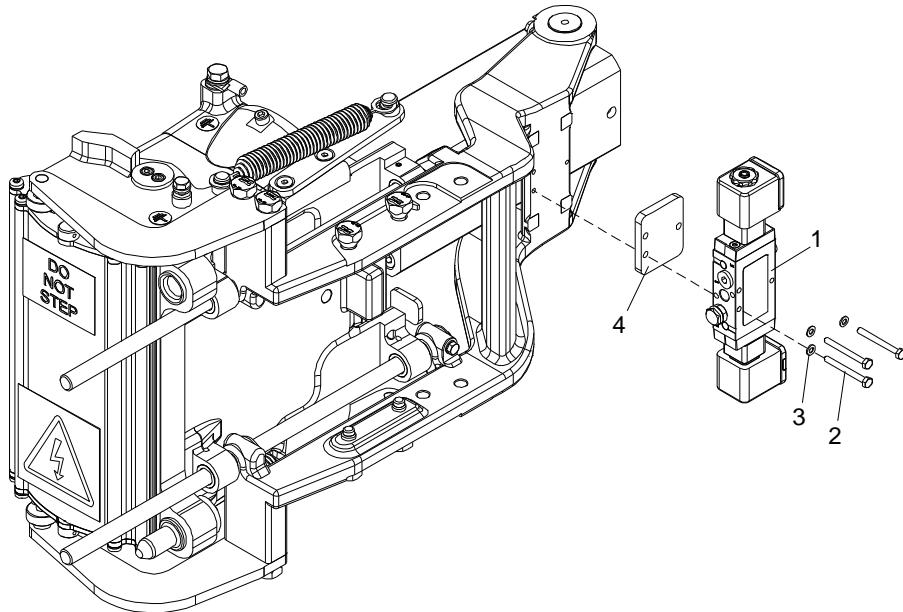

Figure 7-32: Replacement of Electrical Coupler Control Valve (V12 / V13)
1. Take notes how the pneumatic connections are connected to the electrical coupler control valve (1) and loosen the connections. See Figure 7-32.
2. Remove the electrical coupler control valve (1) and distance plate (4) from the right electrical coupler actuator by removing the screws (2) and washers (3).
2. Fit the distance plate (4) and electrical coupler control valve (1) to the right electrical coupler actuator and mount the washers (3) and screws (2). See Figure 7-32.
3. Connect pneumatic connections to the electrical coupler control valve (1) according to previous notes.